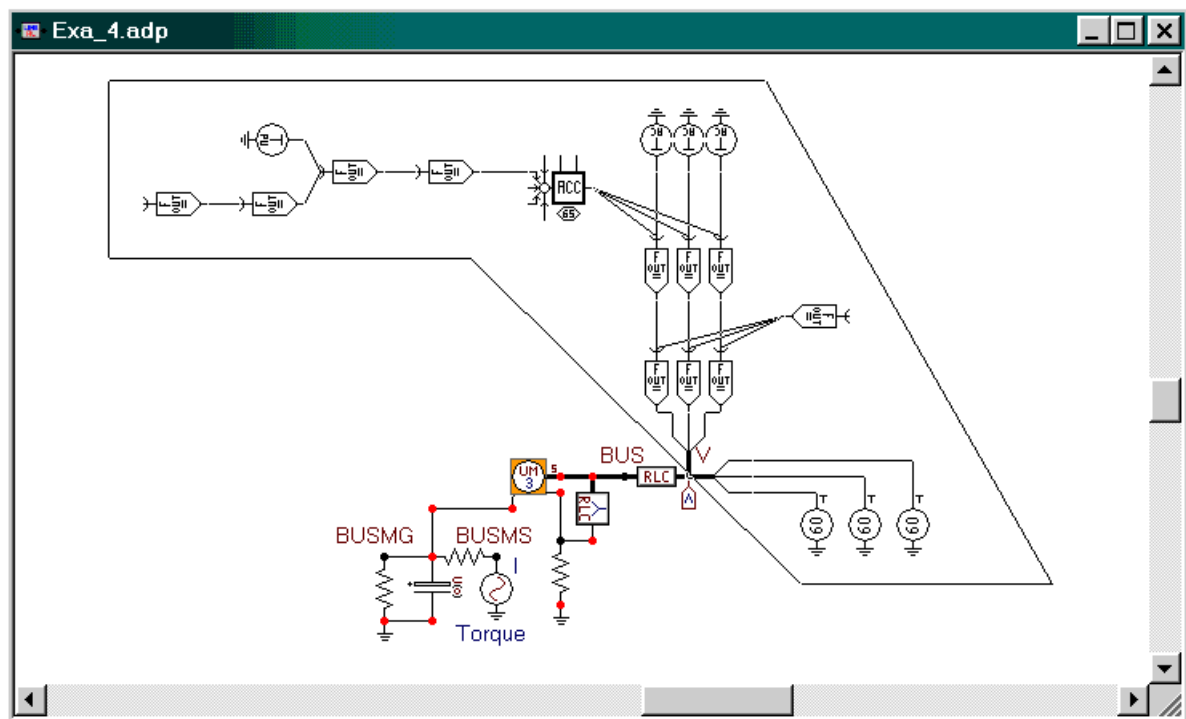

Fig. 5.1 - An induction machine supplied by a pulse width modulated voltage source.
- Select a group of components (inside the polygon in Fig. 5.1).